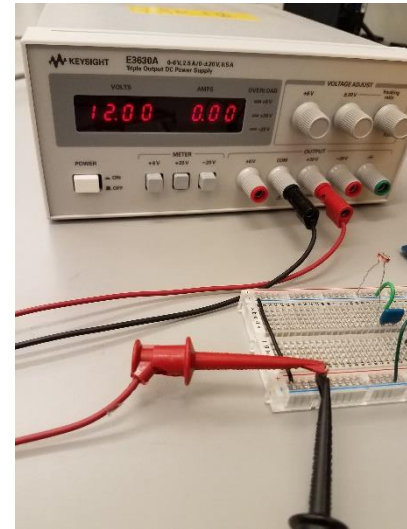

Figure 8: Power Supply and probe connections
4. Then, turn on the power supply and make sure that the “+20V” button is pressed on the meter section of the power supply. Change the “+20V” voltage adjust accordingly so that the reading says 12 volts. For reference, see Figure 8.